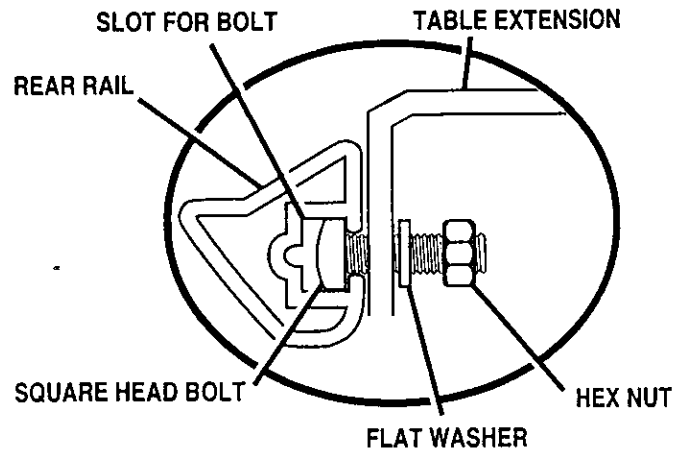

Fig. 3
- Under the table, loosen all of the hex nuts on the square head bolts that hold both front and rear rails. *See Figure 3.*
Note: The square head bolts, washers, and hex nuts shown at the top of figure 3 should still be on the table saw. If you mistakenly removed them, put them back on the table. Do not tighten.